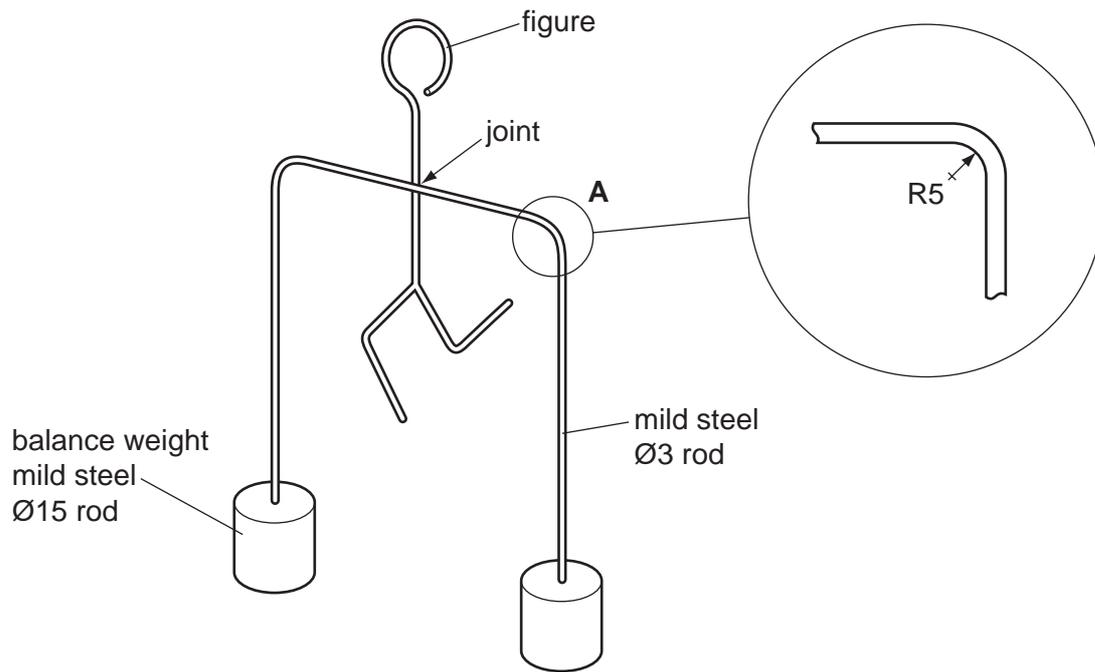

Fig. 12
- 12 Fig. 12 shows a balancing toy made from mild steel. The stand on which the toy will be placed is not shown.
- (f) The joint in Fig. 12 will be made by brazing.